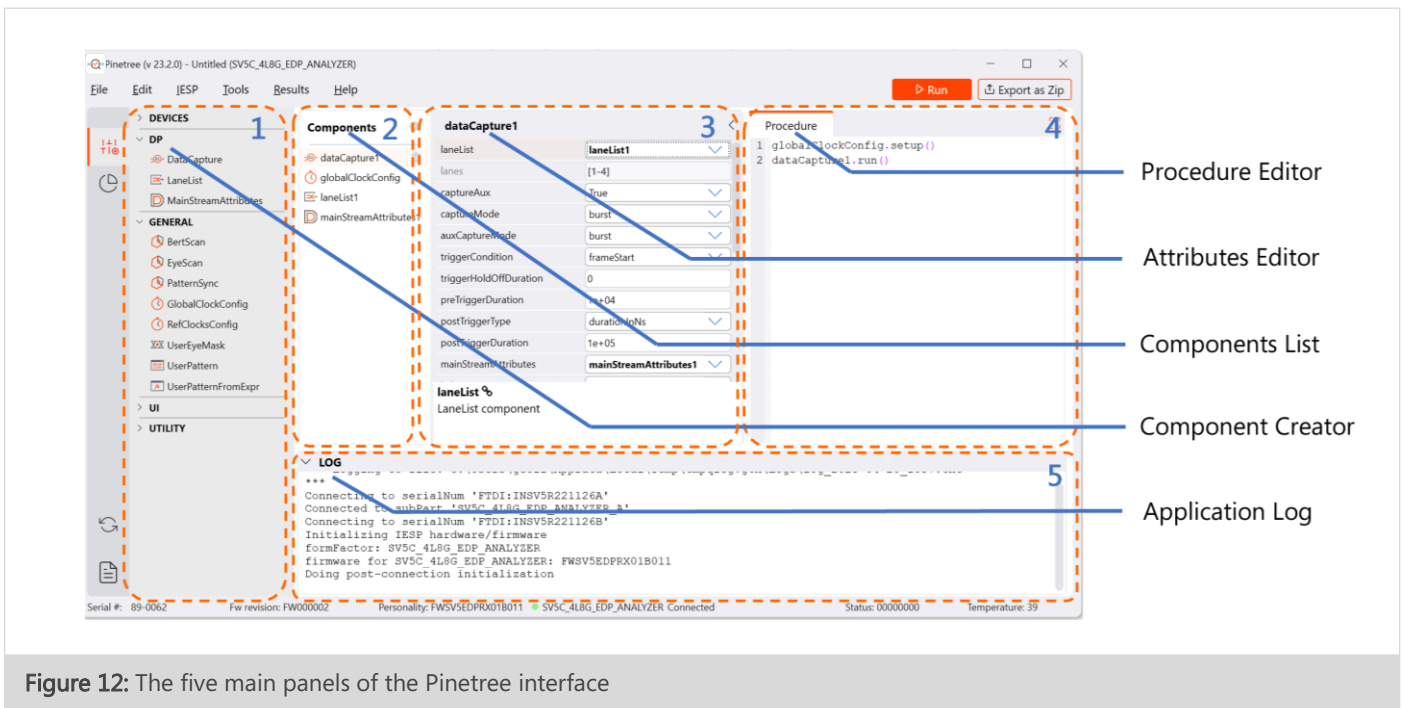

Figure 12: The five main panels of the Pinetree interface
- b) When starting from the "SV5C_4L8G_EDP_ANALYZER" form factor, Pinetree opens the window as shown in Figure 12. There are five numbered panels highlighted in orange in the figure. Each of the five panels are described on the following page.
1. The **Component Creator** is the panel on the left side of the interface as shown in Figure 12. A component is a Python class provided by Pinetree for controlling the SV5C-eDP Analyzer. The Component Creator contains all the components which can be instantiated in software.